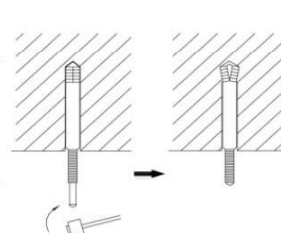

Fig. 4.4
2. Insert the anchor bolts into the drilled holes, and drive the pins completely into the anchor bolts with a hammer. (Fig. 4.4)